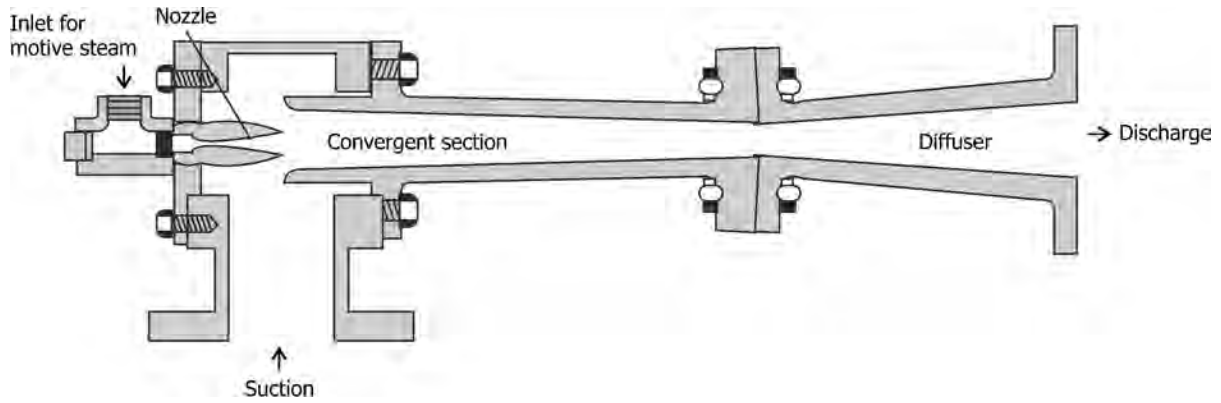
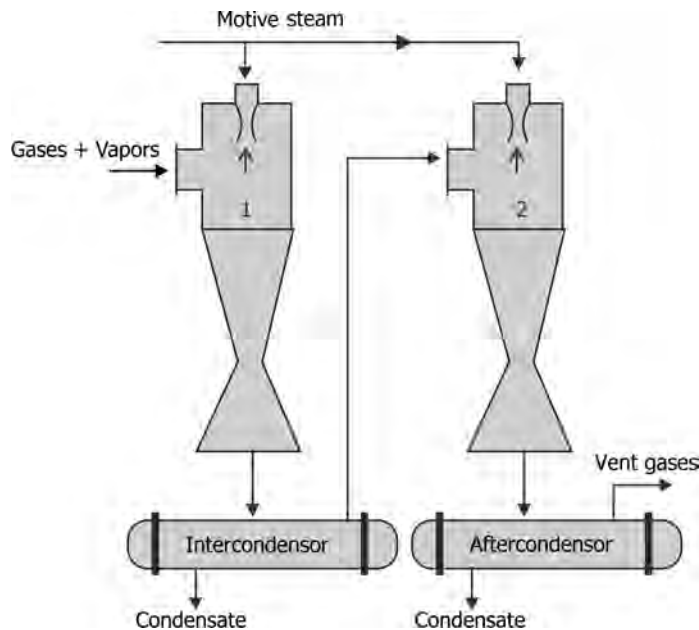

FIGURE 5.33 Steam jet ejector.
FIGURE 5.34 Two-stage ejector system.
- Figure 5.33 illustrates a single-stage steam jet ejector and Figure 5.34 illustrates a two-stage ejector.
- If piping changes direction, it must form at least a 45° angle from the horizontal (Figure 5.34). With this amount of sloping, gases will either rise back up the pipe or continue downward with the thrust of the flowing water.